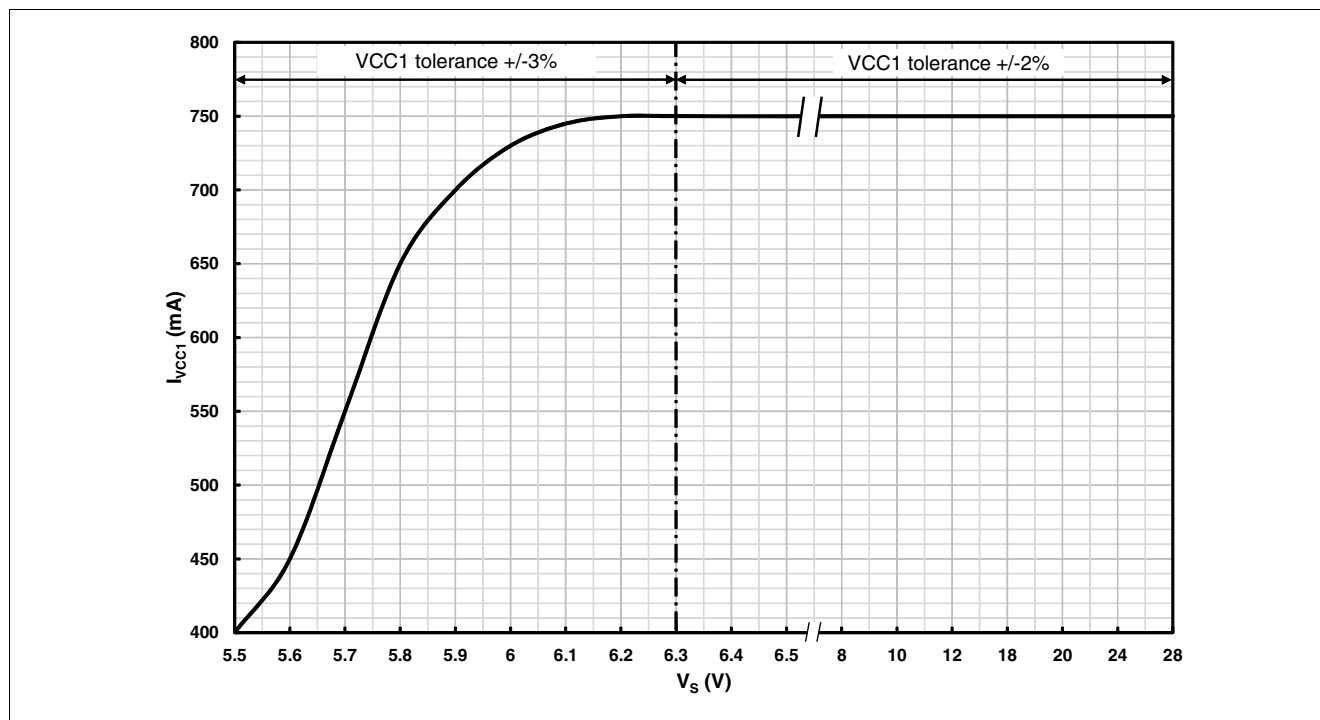

Figure 12 Maximum DCDC Buck current capability versus VS.
1) Typical maximum current capability is given in Figure 12. The external components are in accordance with the application information (refer to Chapter 15).
Note: The Figure 12 is based on characterization results over temperature with external components specified in Chapter 15.1.